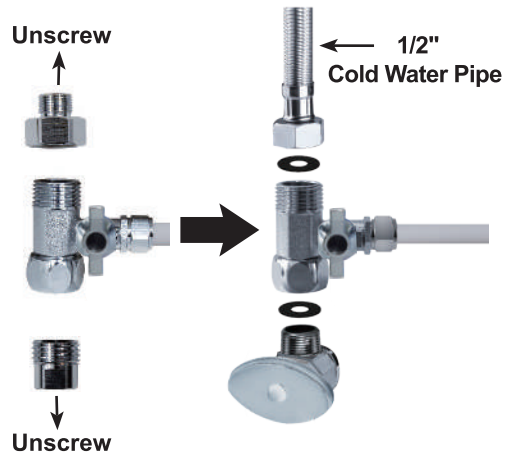

Figure 5
**NOTE:** If the cold water pipe is 1/2", unscrew the two converters from the feed water adapter (Figure 5), and then implement step 3.